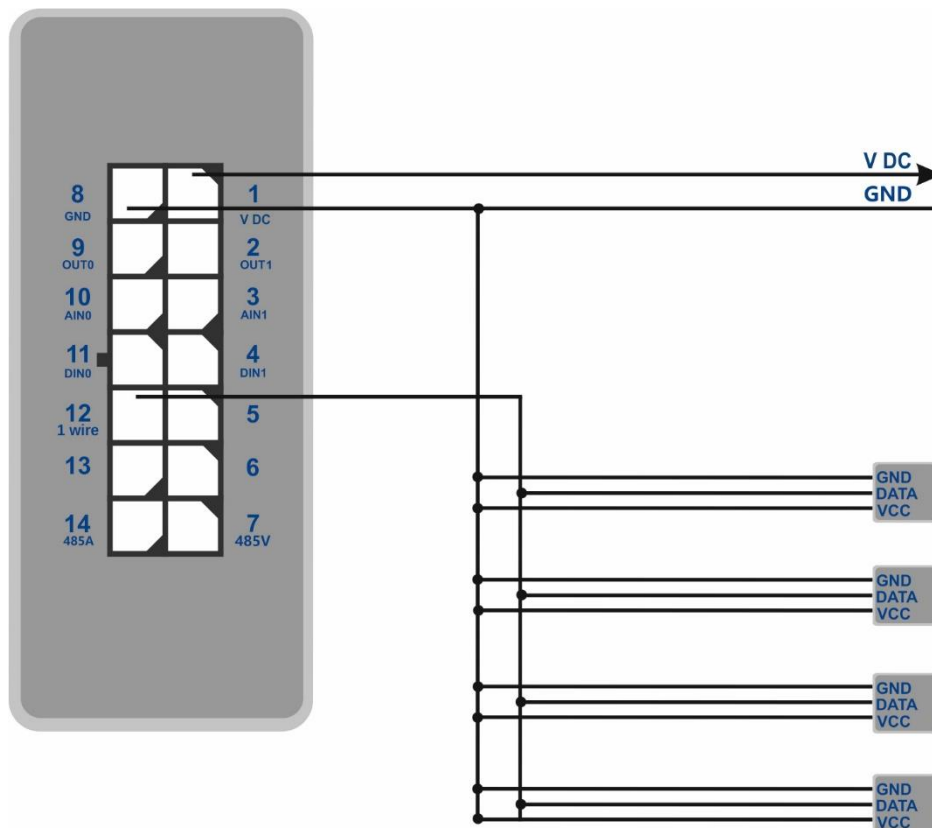

Figure 12 – Connection scheme of the sensors and iButton DS18B20 to CAN of 1-wire
- Connect temperature sensors to the 1-Wire bus using the scheme in figure 12;